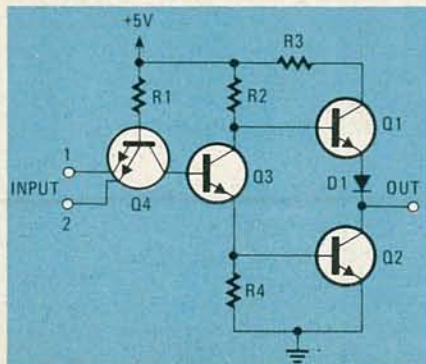

FIG. 3—TOTEM-POLE ARRANGEMENT is used in the internal design of most TTL IC's.
**4. USE BYPASS CAPACITORS.** The internal design of most regular TTL circuits uses the totem-pole output arrangement shown in Fig. 3. As the TTL gate switches from one state to the other, there is a short time period when both internal output transistors, Q1 and Q2, will be ON. When that occurs, there is a direct low-impedance path between the supply voltage and ground. The result can be 10-to-